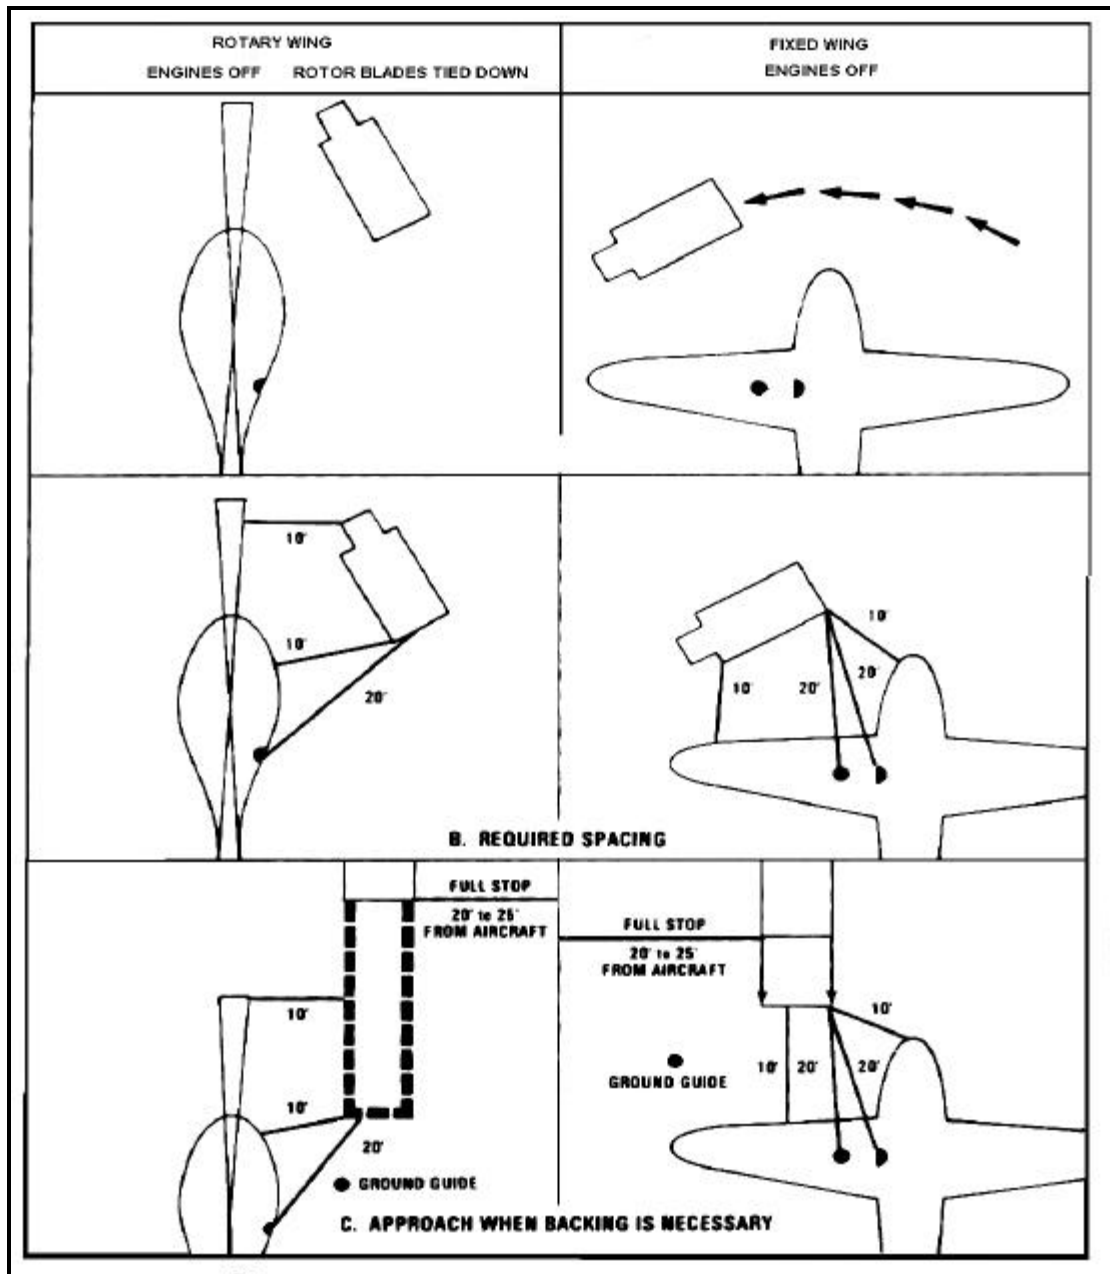

Figure 16-1. Positioning tank vehicle for refueling aircraft
Drive the tank vehicle into position in front of the aircraft. Use the approach route shown in A, Figure 16-1, page 16-5. Do not drive the refueler directly toward the aircraft because brake failure could cause a serious accident.
- Minimum distances.** Keep a distance of at least 10 feet between the refueler and the aircraft. There must be at least 10 feet between the refueler and rotor blades of a helicopter. Keep a distance of at least 20 feet between the exhaust pipe of the pump engine (or truck engine) and the aircraft fill port and tank vent. See B, Figure 16-1 page 16-5.
•Ground guides. If the refueler can be driven into position without backing, do so. If the refueler must be backed toward the aircraft, bring the truck to a full stop 20 to 25 feet away from the aircraft or its rotor blades. Have another soldier act as a ground guide. Follow his signals to guide the final backing approach until he stops the refueler at the proper distance from the aircraft and its fill port or vent. See C, Figure 16-1.